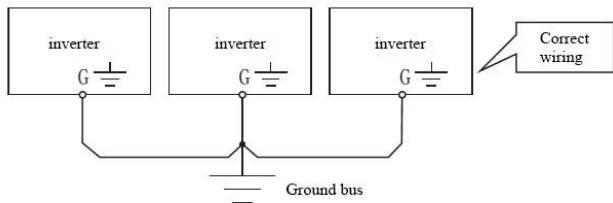

figure 1-1
- For safety reasons, the ground terminal of the frequency converter must be reliably grounded . In order to avoid the influence of ground common impedance interference, The grounding of multiple frequency converters should use a point grounding method, as shown in Figure 1-1 .